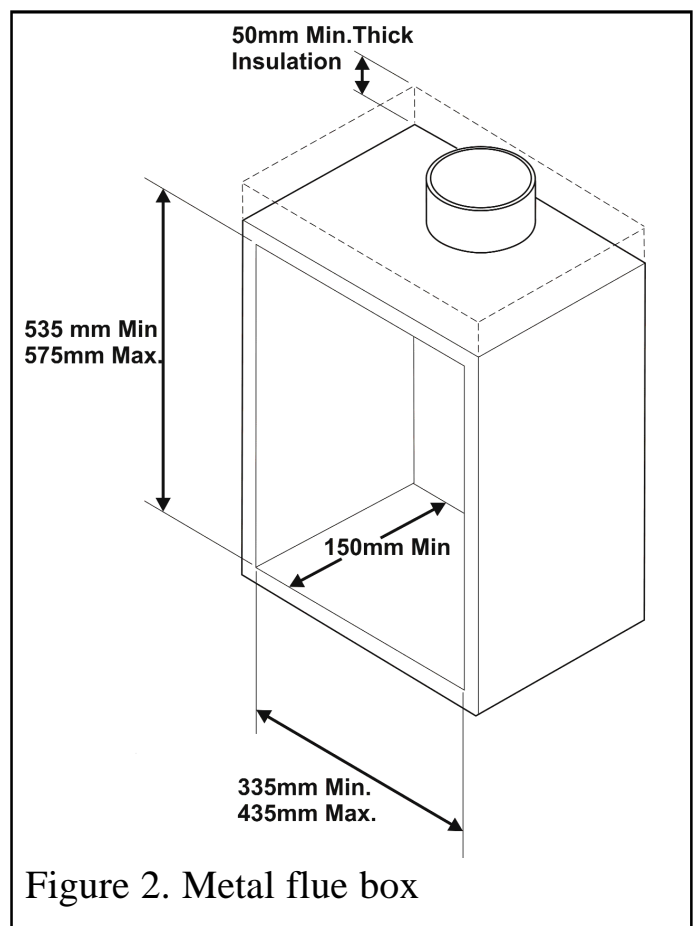

Figure 2. Metal flue box
**3.2.2** To a fireplace incorporating a metal flue box conforming to BS EN 1856 Part 1 or BS 715 with a minimum internal depth of 150mm. Incombustible mineral wool insulation of not less than 50mm thickness must be applied to the top surface of the hotbox (See figure 2) and it must stand on a non-combustible hearth (See figure 1).